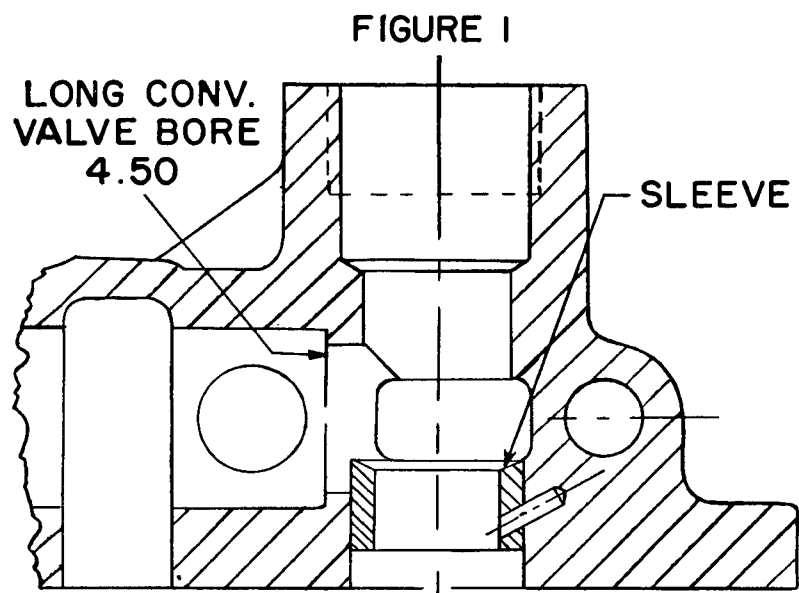

FIGURE 1
- 1.1 The clutch pressure regulator bore in the cover was counterbored oversize to a certain depth, and a steel sleeve was pressed into the counterbore. The sleeve was chamfered on one end for the clutch pressure regulator valve to seat (see Fig. 1). Interchangeability was not affected by this change since the converter pressure regulator valve P/N 6750877 and spring P/N 6752987 remain unchanged. (This is the same converter valve and spring used in the initial release of the dual valve cover, Ref: SIL #117, page 3 of 4.) This change (engineering change letter "D") became effective with Torqmatic converter S/N 4465 through S/N 4647 to include S/N 4450, 4451, 4452, 4454, 4456 and 4457.
In the field, covers to this configuration can be identified by either the change letter "D", which will be acid etched by the piece part number, or the steel sleeve with the chamfer in the clutch circuit bore (see Fig. 1).